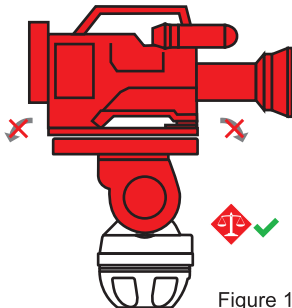

Figure 1
3. Hold the pan bar firmly, disengage the tilt brake. Observe how the payload moves and where it stops. If the platform stops in a horizontal position (camera pointing directly forward) or falls away evenly in either direction, the balance is correct. (Figure 1)